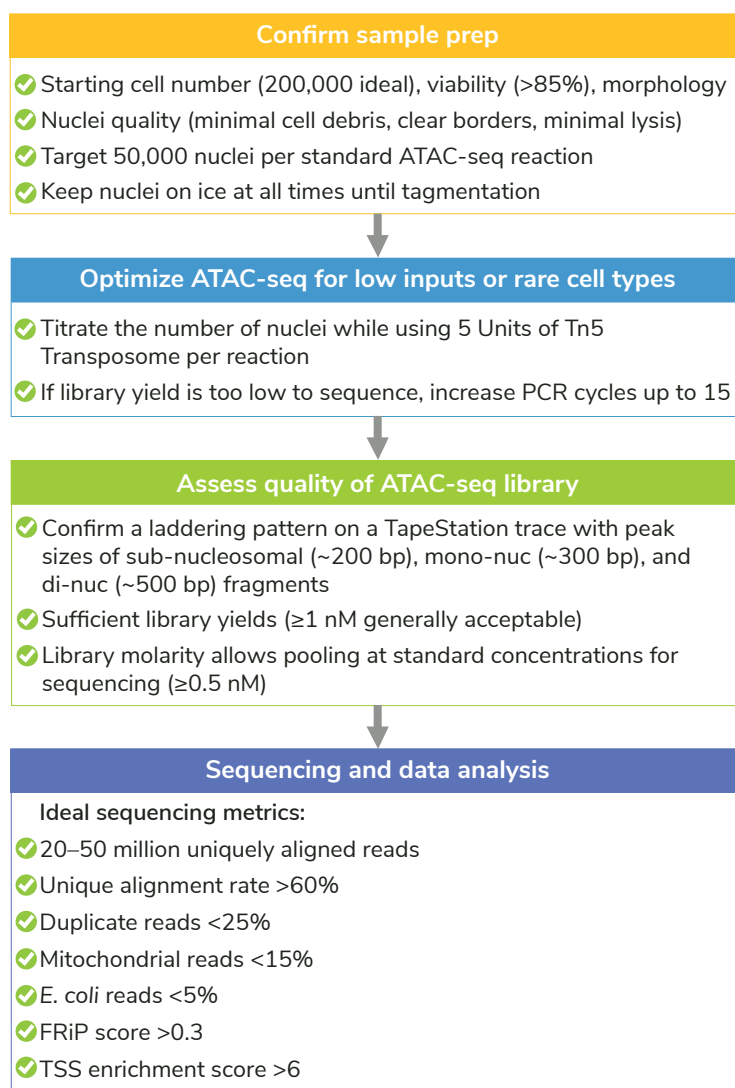

FIGURE 4
- The CUTANA ATAC-seq Kit provides multiple quality control checks (Figure 4), including established ATAC-seq success metrics, to support reliable ATAC-seq workflows⁵.